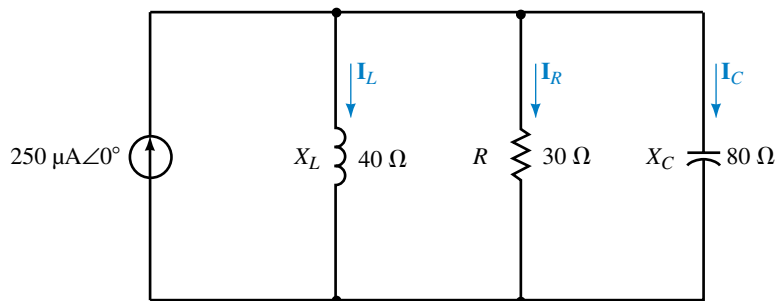

FIGURE 18–46
- Use the current divider rule to determine current through each branch in the circuit of Figure 18–46.
- b. Verify that Kirchhoff's current law applies to the circuit of Figure 18–46.